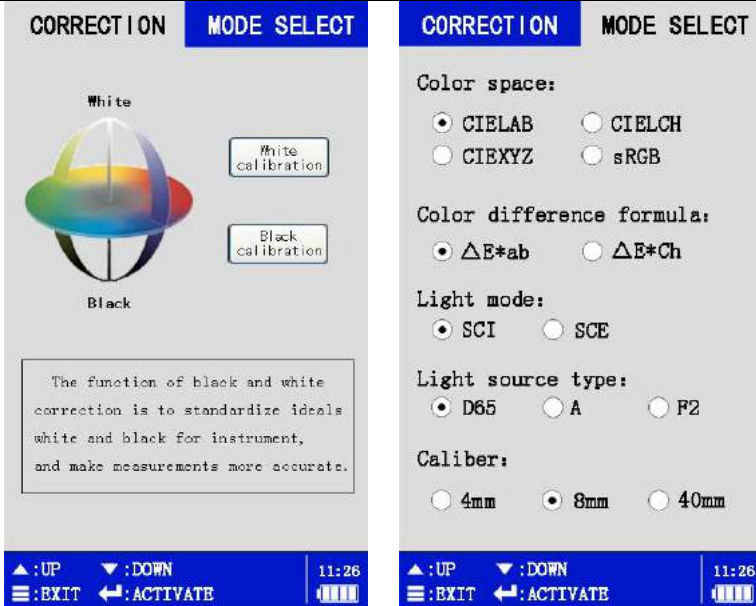

figure 7 "black and white correction" "mode selection" interface
2、 Screen to switch to the "prototype" interface, press the "function key", showing "black and white calibration/mode selection" interface, as shown in figure 7, it can change between "black and white correction "and" mode selection" through skipping key. In the mode selection interface, setting the measuring diameter as 4mm, and for black and white correction according to the instrument tips.